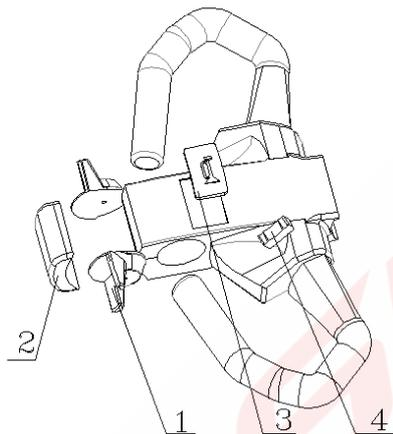

FIG 3
- In case of a malfunction, push the safety emergency switch(No.2,fig.3) on the speed regulator .
2) Safety emergency switch (No.2 , fig 3)